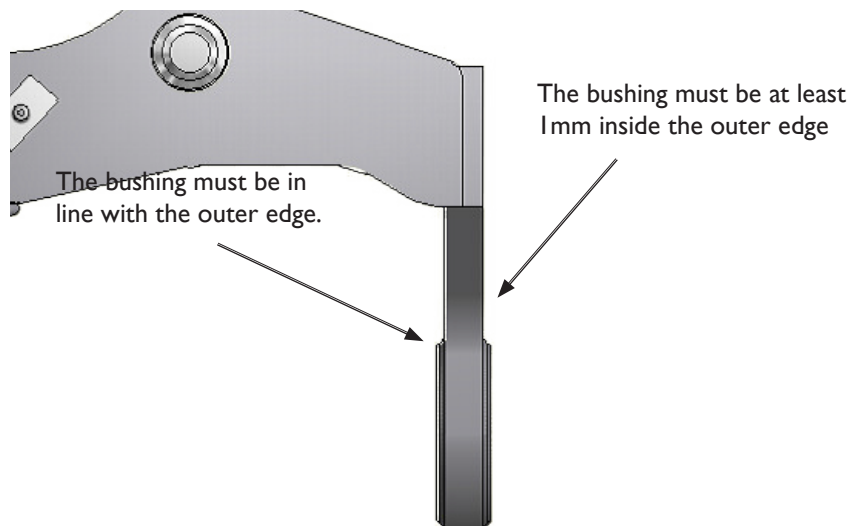

Figure 20. Replacing the tilt axle bushing
5. Knock out worn bushings and push in the new bushing so that it lies flush with the inner edge of the lug. See Figure 20.
It is important to fit the tilt axle correctly so that it does not damage the bushing. See Figure 20.